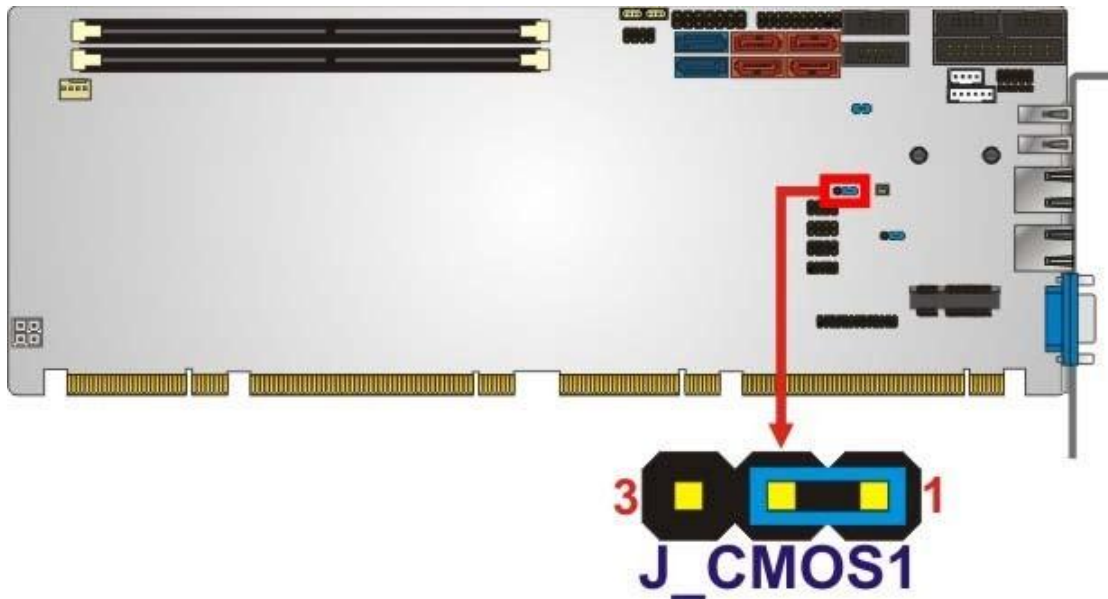

Figure 4-8: Clear BIOS Jumper Location
- Jumper Location: See Figure 4-8